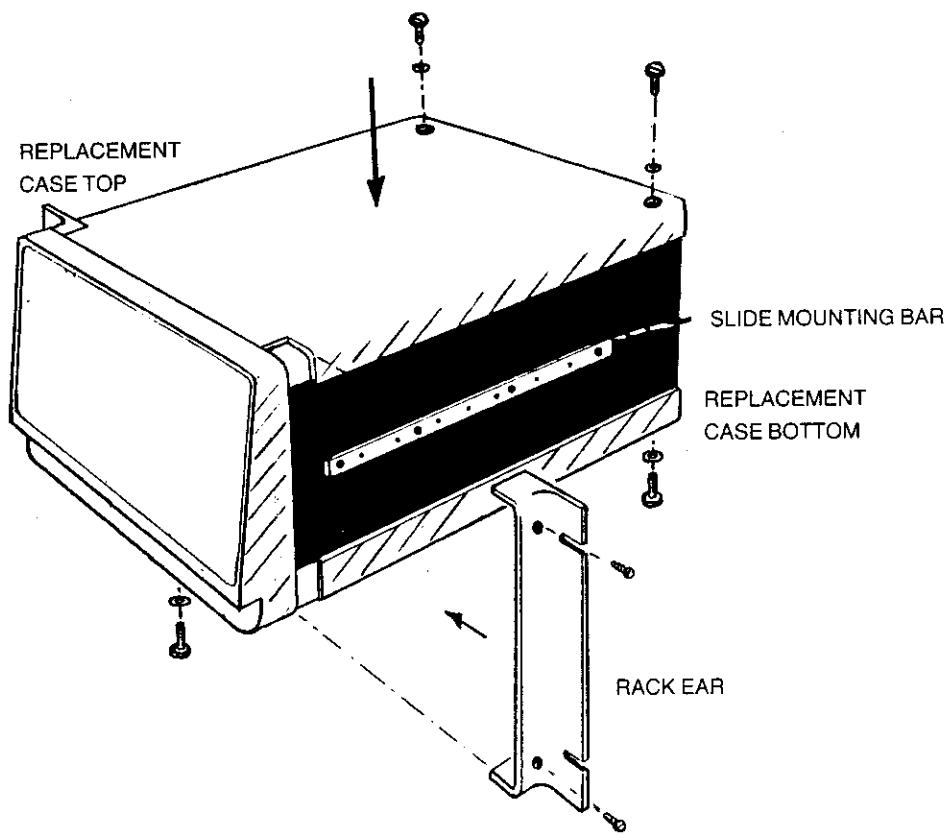

Fig. 2.11 Fitting rack ears, slide mounting bar, and replacement cases
4. Fit the following items to the unit, as shown in Fig. 2.11 overleaf: